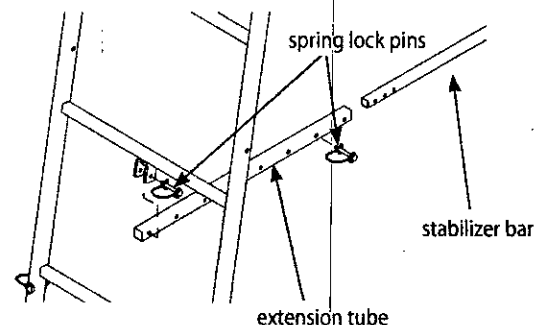

Figure 4
- a. Attach the stabilizer bar extension tube (1ML23) to the second ladder section mounting bracket using (1) provided spring lock pin. **SEE FIGURE 4.**
- b. Slide the stabilizer bar (L17) into the extension tube and attach the two pieces together using (1) provided spring lock pin. Spring lock pin must go through both the extension tube and stabilizer bar at appropriate hole to achieve desired distance from tree. Adjustment in length may be needed when ladder is uprighted later in instructions. **SEE FIGURE 4.**